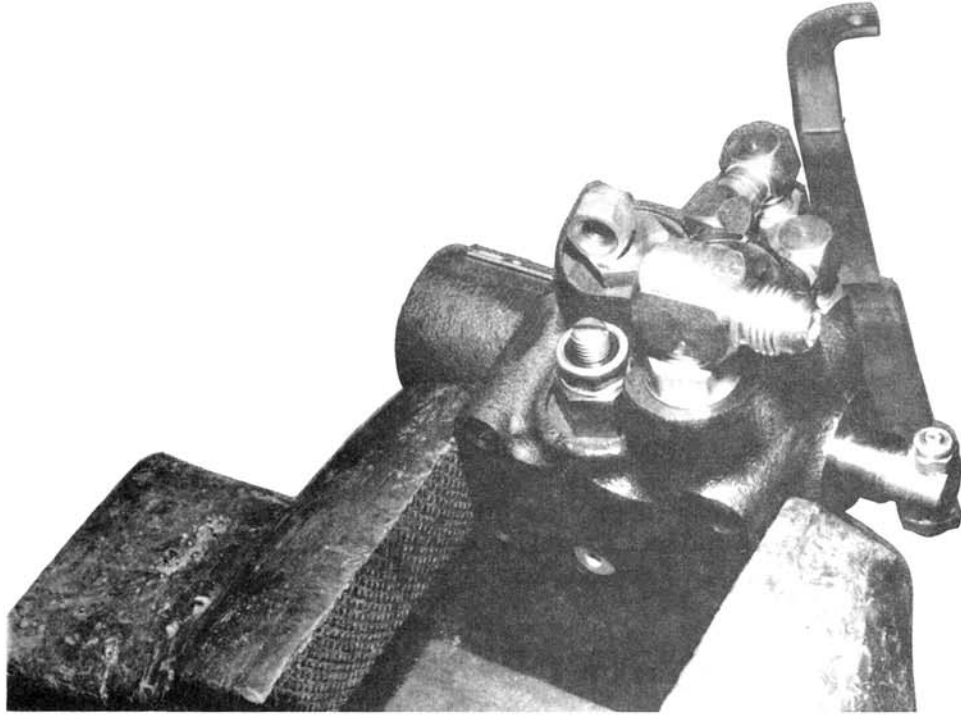

FIGURE 50
- i. Remove the acorn nut on the valve body. See Figure 50. Loosen the jam nut while holding the adjusting screw with a screwdriver.